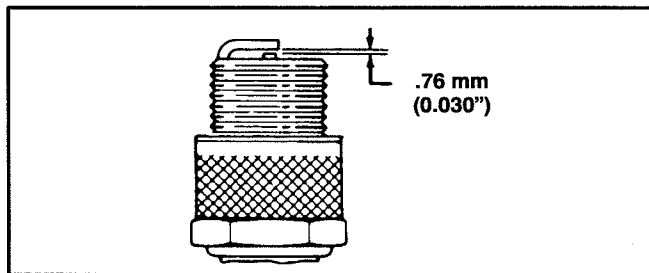

Figure 17
3. Set air gap at 0.76 mm (0.030") (Fig. 17). Install correctly gapped spark plug and gasket seal. Tighten plug firmly to 19 N·m (14 ft–lb).